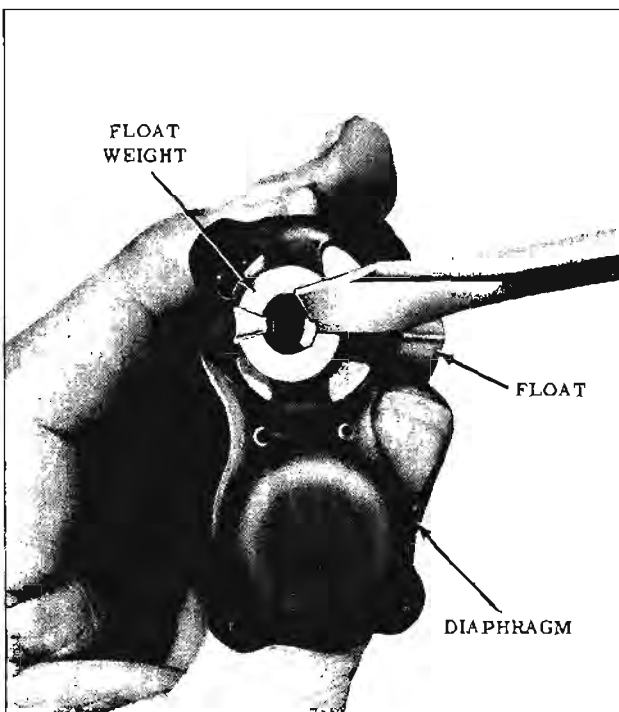

Fig. 9-113 Removing Diaphragm
4. Remove diaphragm, float weight and float assembly. Diaphragm can be removed from float by carefully bending tangs in float weight slot together, then remove weight and diaphragm from float. (Fig. 9-113)